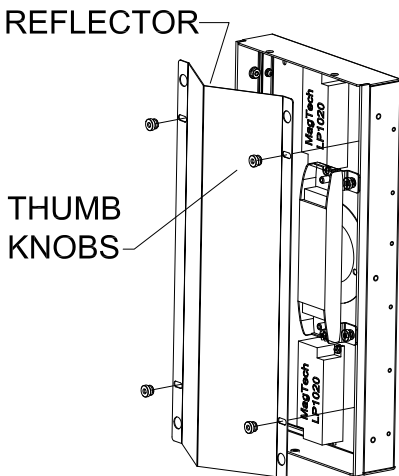

Figure 2
Step 7 Install the reflector, be careful not to damage the wire connectors or insulation on wire leads that provide power to the LED modules. Secure reflector into position with thumb knobs. (See Figure 2)